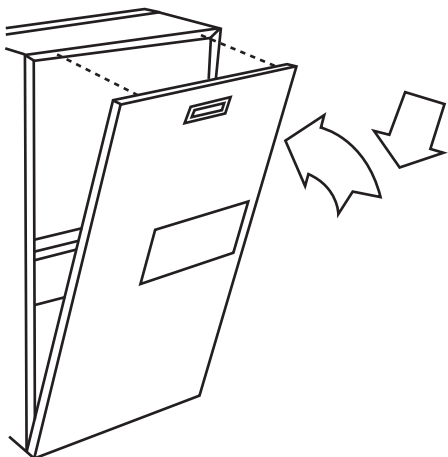

Fig. 30 - Replace Furnace Door
9. Replace main furnace door. (See Fig. 30.)